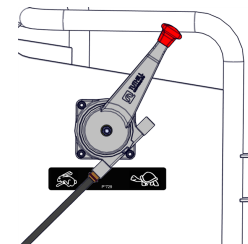

Figure 10 - Throttle Lever
1. Ensure the throttle lever is in the slow (tortoise) position (Figure 10).